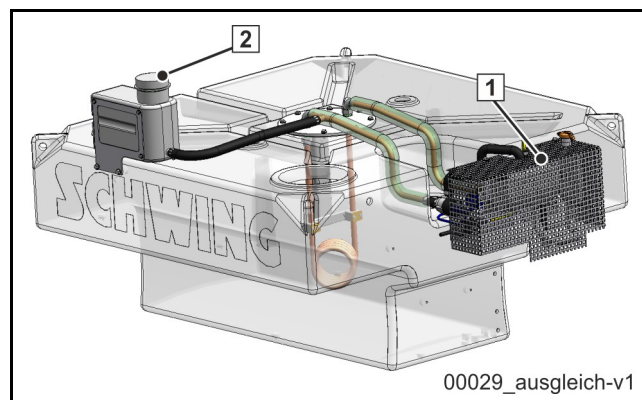
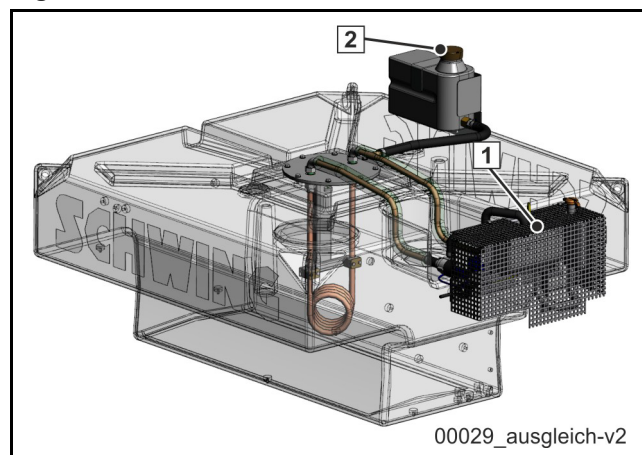

Fig. 485
Fig. 486
The water heater **(1)** (**Fig. 485**) is a piece of special equipment.
There are two possible installation points for the expansion tank: (2) (Fig. 485) or (Fig. 486).
- Make sure there is enough fluid in the heating circuit's expansion tank (2).